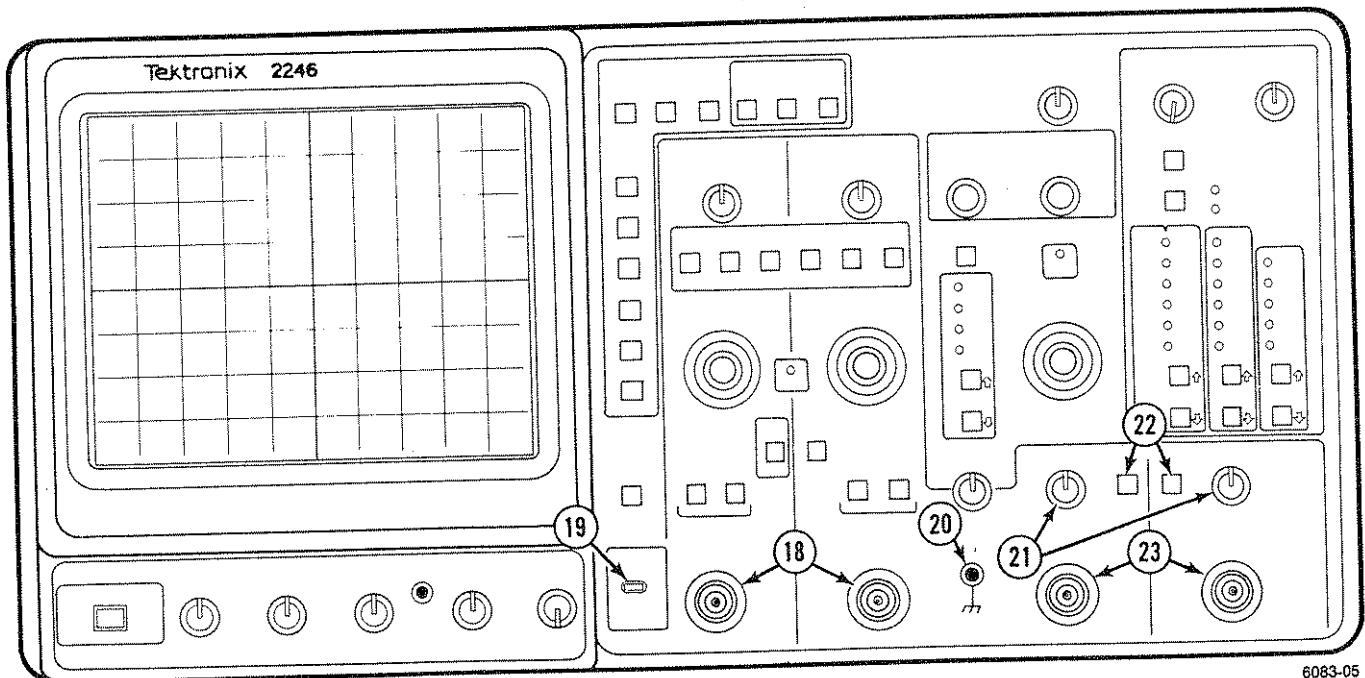

Figure 3-3. Vertical connectors and CH 3 and CH 4 Controls and indicators.
See Figure 3-3 for items 18 through 23.